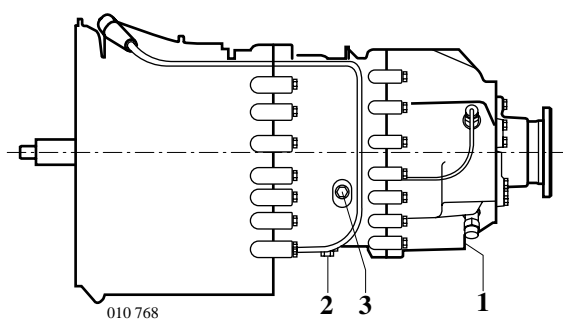

Fig. 1.1 Version: solo transmission
- ⇒ Remove oil drain plugs from transmission (Figs. 1.1 and 1.2, items 1 and 2) and collect transmission oil in a suitable container. Dispose of in an environmentally-friendly manner.
### Key to Figs. 1.1 and 1.2
(Figs. 1.1 and 1.2, item 3).